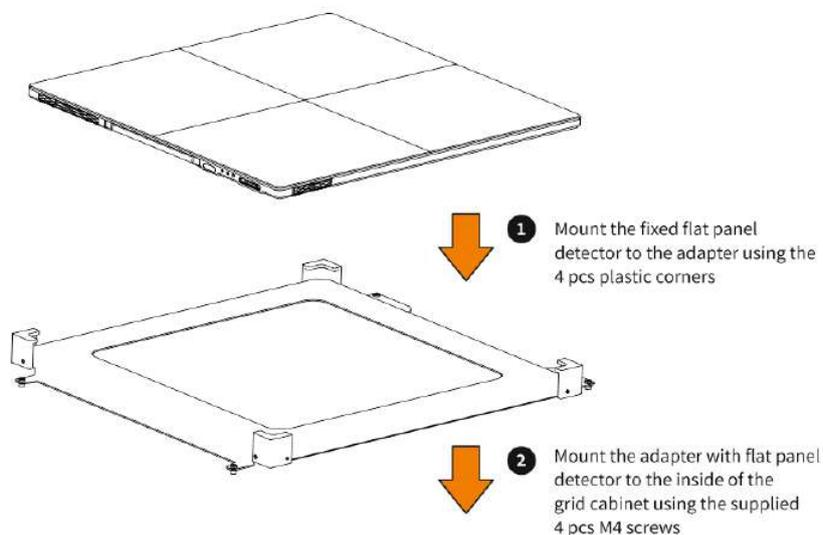

Figure 41 – Fixed DR flat panel mounting
- b. Mount the fixed DR flat panel. Refer to Figure 41.